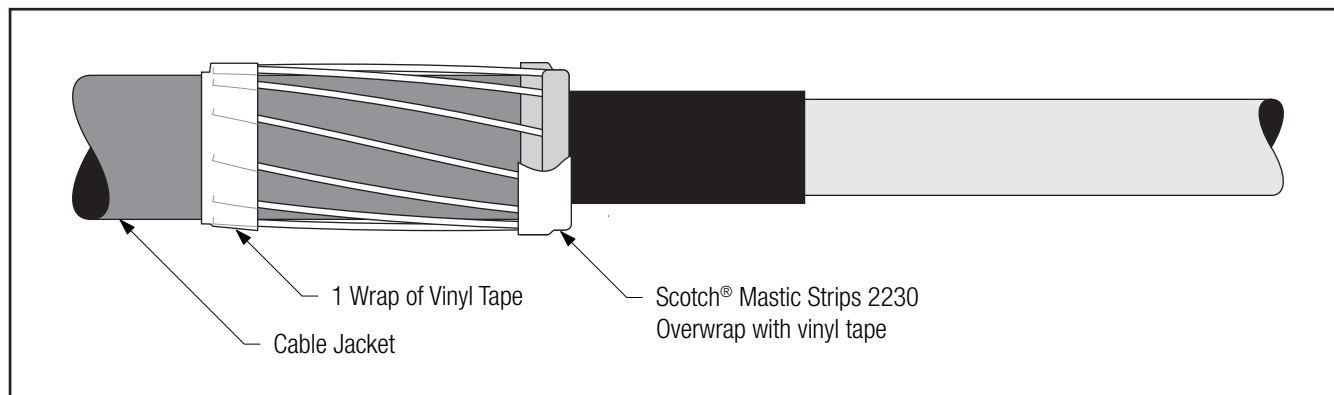

Figure 4
- 2.6 Apply an additional **single wrap** of Scotch® Mastic Strip 2230 at the edge of the cable jacket and partially over the neutral wires. Overwrap mastic with vinyl tape, taking care not to extend tape along neutral wires (*Figure 4*).